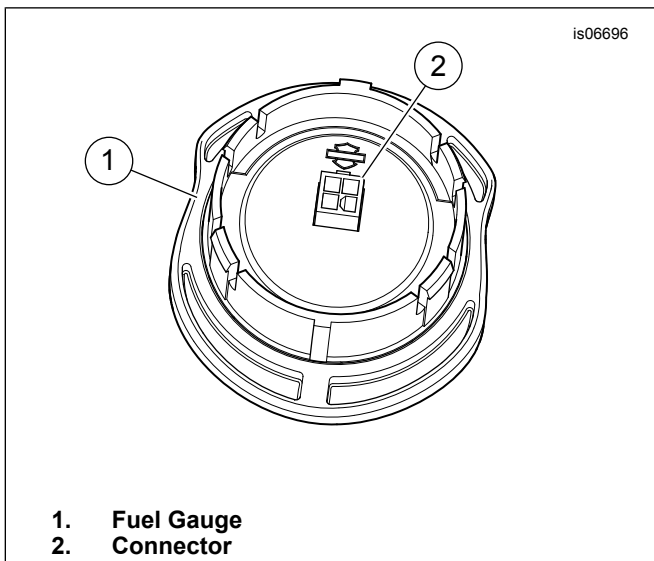

Figure 1. Fuel Gauge Connector
1. See Figure 1. Connect wiring harness connector to fuel gauge connector (2).